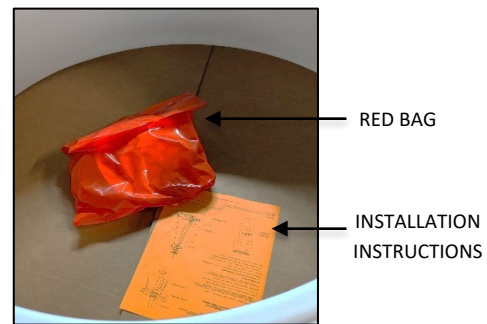

FIG.3 RED BAG AND
2. INSTALLATION INSTRUCTIONS (shown in FIG. 3) - Please completely read the install instructions before starting installation.
3. RED BAG (shown in FIG. 3) contains below following items